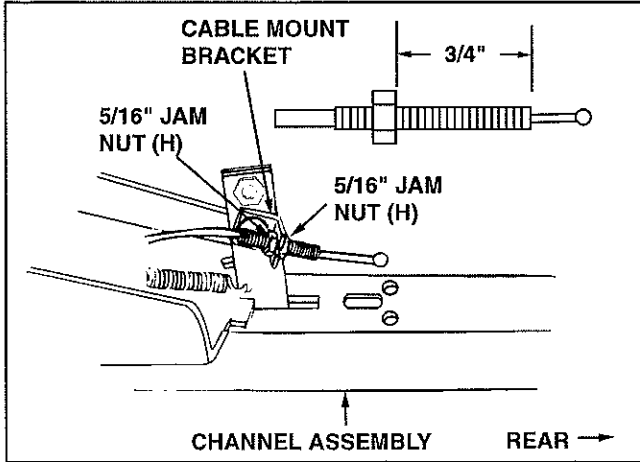

FIGURE 12 (Left Hand Side View)
22. Assemble one 5/16" jam nut (H) approximately 3/4" onto threaded end of control cable that has no rubber cap or preassembled nuts. Assemble threaded cable end through round hole in cable mount bracket and secure with another 5/16" jam nut (H). **Tighten.** See figure 12.
25. Align the cable mount bracket shown in figure 12 with the cable end fitting and tighten the carriage bolt and nylock nut.